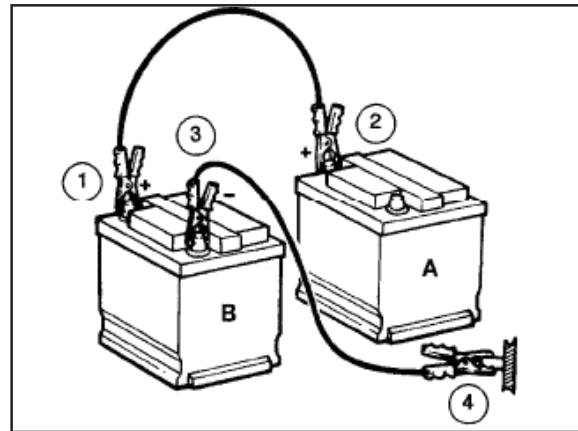

Fig. 44
If the tractor has a discharged battery, (A, Fig. 44) it can be started with either a slave battery (B) or the battery of another vehicle. Follow the procedure described below.
4. Connect one end of one jump lead to the slave battery positive (+) terminal (1) and the other to the tractor battery positive (+) terminal (2).
5. Connect one end of the other jump lead to the slave battery negative (-) terminal (3) and the other end to the tractor engine block (4).